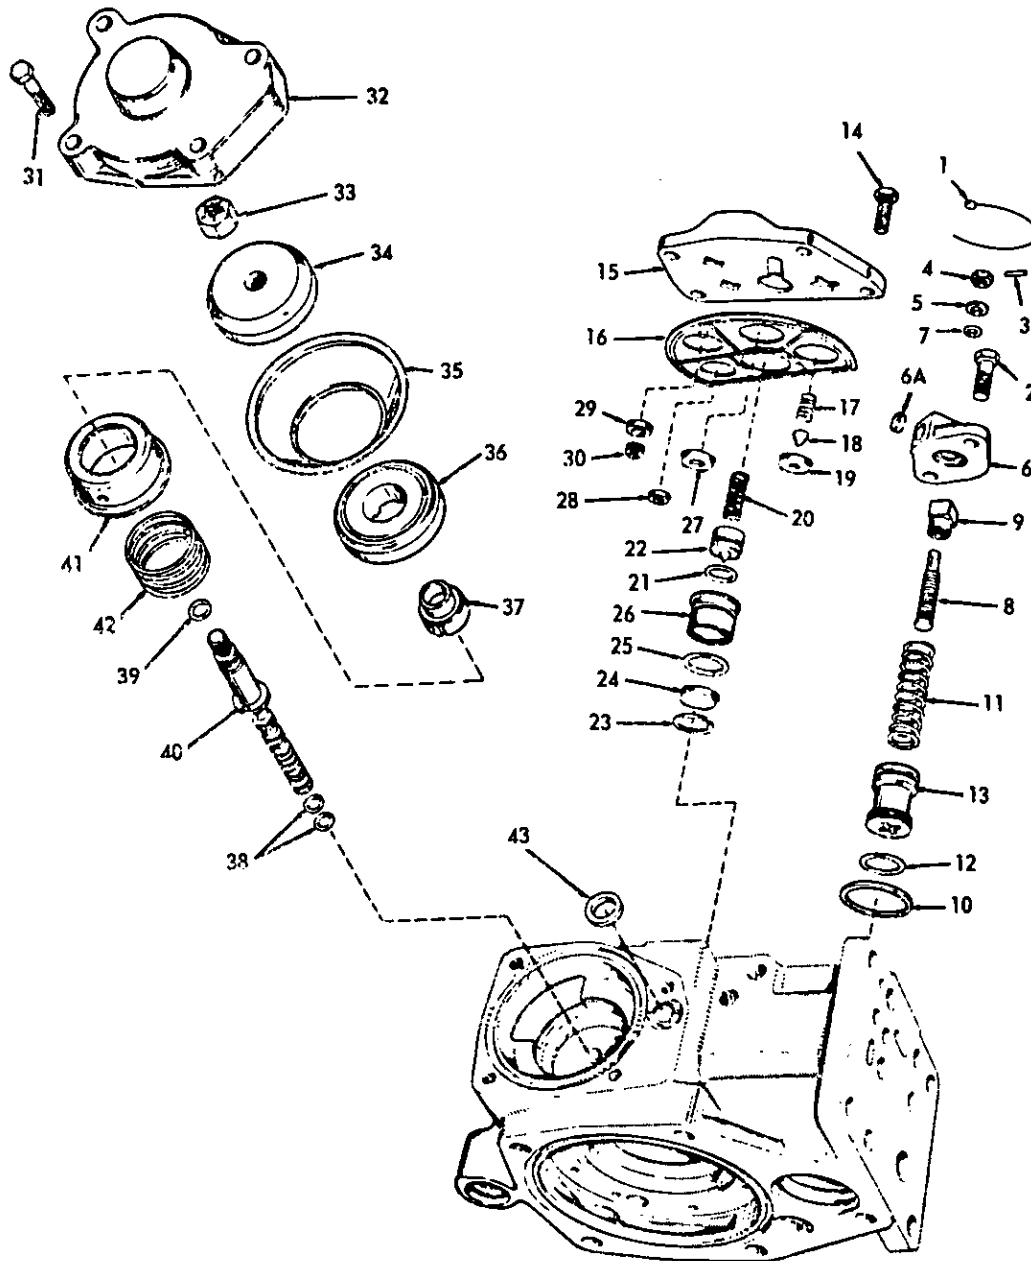
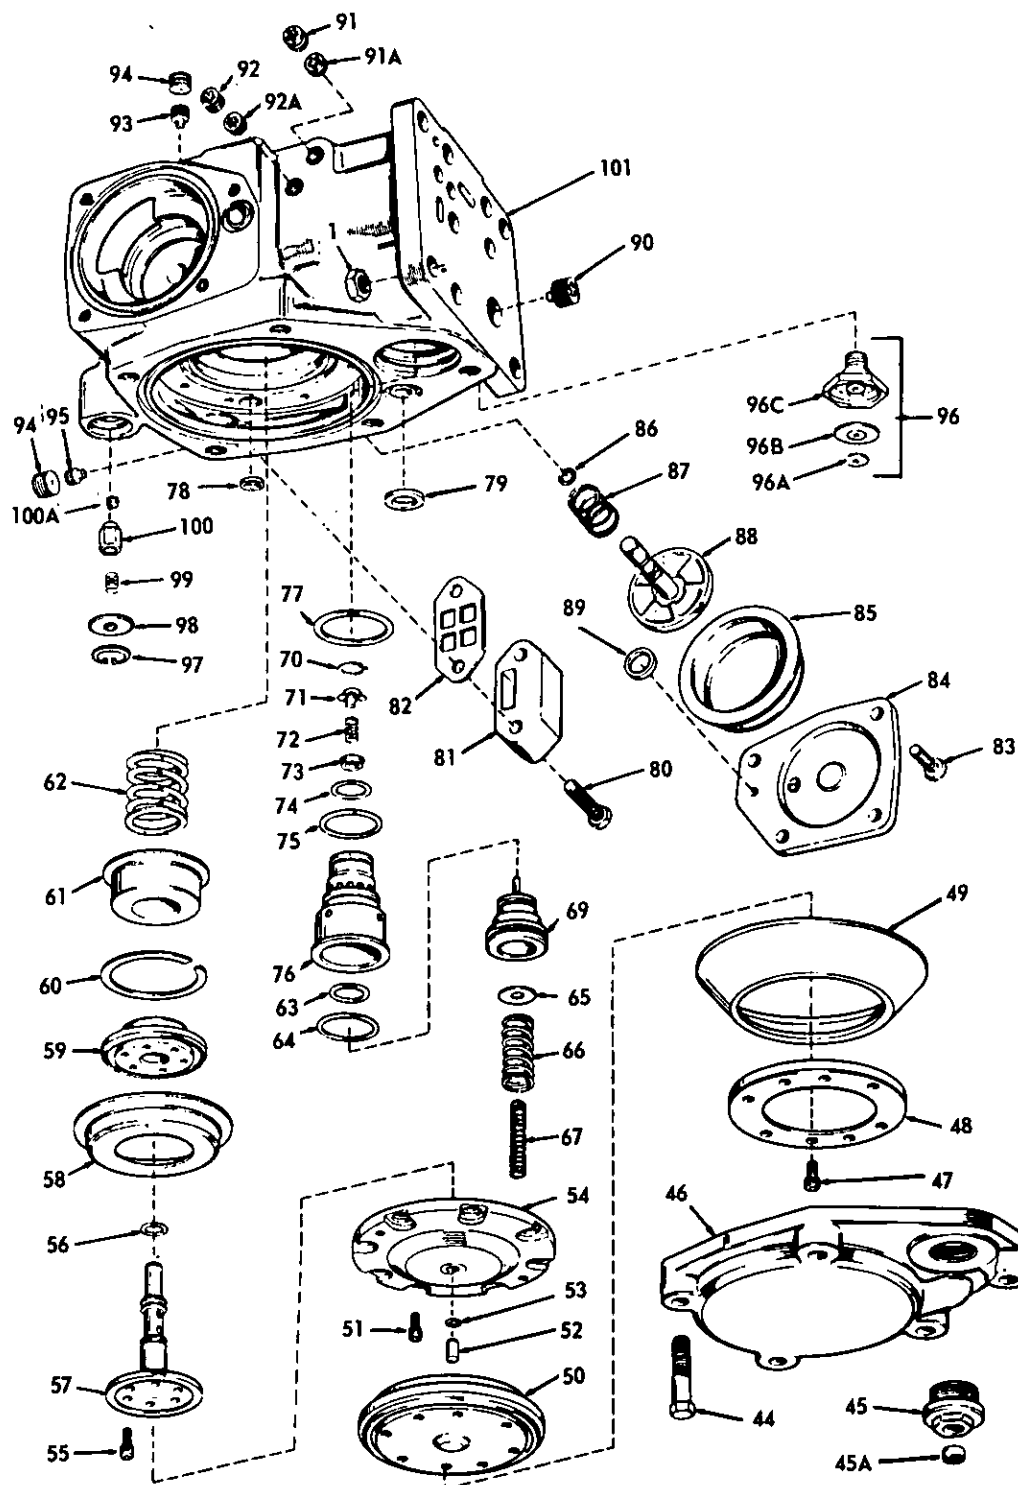

FIGURE 2A - EXPLODED VIEW
FIGURE 2B - EXPLODED VIEW
(Refer to Figures 2A and 2B)
(NOTE: The Service Portion is removed from the Pipe Bracket Portion by removing four 1/2 inch hex nuts (Figure 2B, Ref. 1). The nuts are not a part of the Service Portion but are a part of the Pipe Bracket Portion).
(NOTE: Refer to Figure 2B)
11. Using the tool shown on drawing R-42-4, remove the emergency limiting valve bushing (76) from the service valve body (101). (See paragraph IV.A.1.).
- a. Remove the 1-1/4 inch O.D. o-ring (74) and the 1-9/16 inch O.D. o-ring (75) from the emergency limiting valve bushing (76).
- b. **CAUTION:** Exercising care so that no parts "fly-out" and cause an injury, **CAREFULLY** remove the retaining ring (70), spring retainer (cage) (71), release check valve spring (72), and release check valve (73).
- c. Remove the 2-3/8 inch O.D. o-ring (77) from the service valve body (101).
- (NOTE: Refer to Figure 2A)
12. Remove the four 3/8 x 1-3/4 inch hex head cap screws (31) which secure the selector valve cover (32) to the service valve body (101).
13. Remove the 15/16 inch O.D. ring gasket (43) from the service valve body (101).
- a. Remove the six 9/16 inch O.D. o-rings (38) from the piston stem (40).
- b. Turn the spring retainer (41) on the piston stem (40) until the slot in the stem and slot in the piston stop (37) are in line.
- c. Insert the selector valve piston tool shown on drawing R-42-5 (see paragraph IV.A.3.) into the slot in the piston stem (40) and piston stop (37), then remove the 1/2 inch stop nut (33), selector valve follower (34), diaphragm (35), selector valve piston (36), selector valve spring (42), spring retainer (41), and piston stop (37) from the piston stem (40).
- d. Remove the 5/8 inch O.D. o-ring (39) from the piston stem (40).
- e. **Refer to Figure 2B. CAUTION:** Exercising care so that no parts "fly-out" and cause an injury, **CAREFULLY** lift the edge of the selector volume overcharge check valve vent protector seal assembly (98) and remove the following parts from the service valve body (101).
- (1) Retaining ring (97).
- (2) Seal assembly (98)
- (3) Check valve spring (99)
- (4) Check valve (100)
- (a) Remove the rubber plug (100A) from the check valve (100).
15. Remove the four 3/8 x 1 inch cap screws (14) which secure the top cover (15) to the service valve body (101), then remove the service valve top cover (15).
16. Remove the top cover gasket (16).
17. Remove the control reservoir charging check valve spring (17), spring seat (18), and control reservoir charging check valve (19) if the portion is so equipped.
18. Remove the service application check valve spring (20).
20. Remove the check valve guide (26).
- a. Remove the 1-1/4 inch O.D. o-ring (25) from the check valve guide (26).
- b. **CAUTION:** Exercising care so that no parts "fly-out" and cause an injury, **CAREFULLY** remove the retainer (23) and check valve (24) from the check valve guide (26).
- c. Remove the spring guide (22) from the check valve guide (26).
- c. **IMPORTANT:** THE CHOKE PLUGS LOCATED IN THE SERVICE VALVE BODY (Shown as reference 30 in Figure 2A and as references 90, 92A, 93, and 95 in Figure 2B) MUST BE SERVICED FOLLOWING THE PROCEDURE FOUND IN PARAGRAPH VI. THIS PROCEDURE MUST BE ADHERED TO. Refer to the WABCO Parts Catalog 3220-5, Sup. 7 for plug part number and location.
- (1) Reject and replace any spring that is rusted, pitted, or has taken a permanent set.